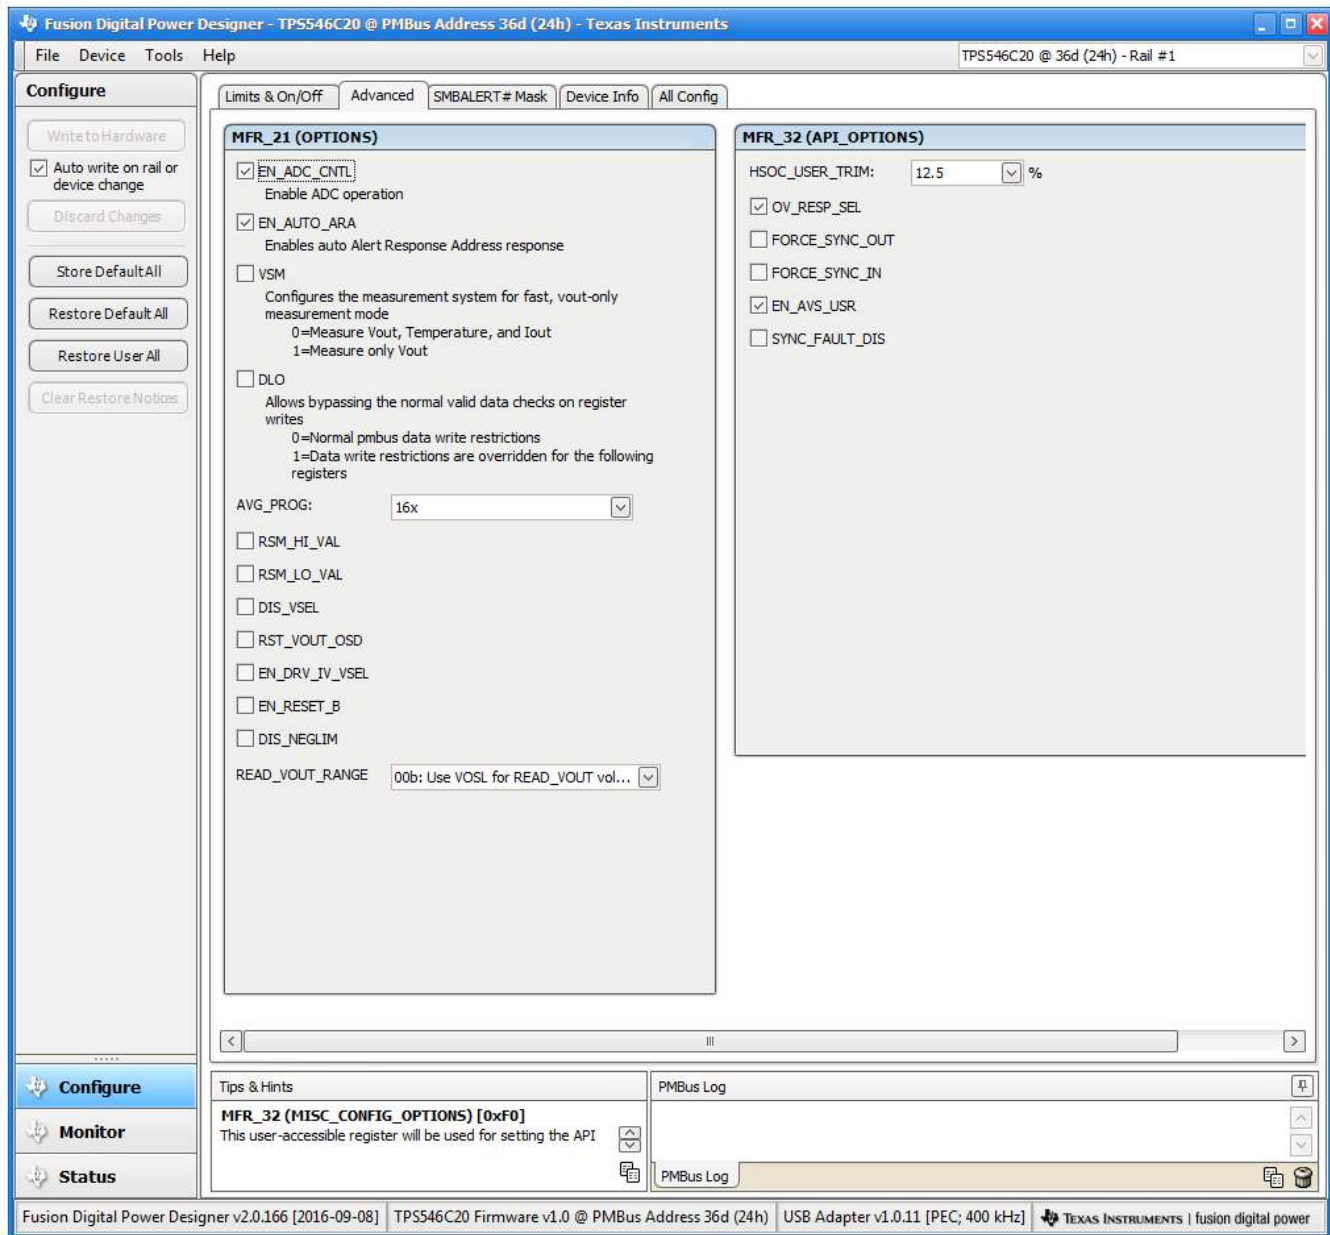

Figure 32. Configure - Advanced
For modifications on V_{ref} and Soft Start time, to make the changes effective in next power up, **DIS_VSEL** in **Advanced** tab Figure 32 should be checked and stored to non-volatile memory as well.
- Use the **Advanced** tab Figure 32 to configure: